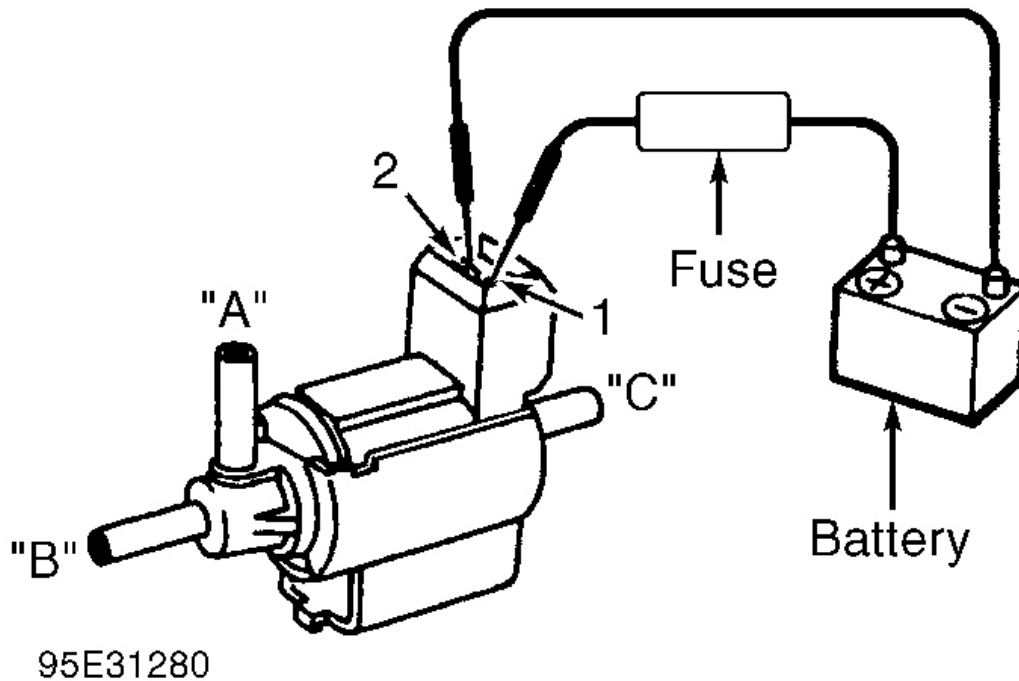

Fig. 10: Typical Control Solenoid
1. Disconnect vacuum lines and electrical connector from solenoid. Remove solenoid. Using hand-held vacuum pump, apply vacuum to port "A" of solenoid. See **Fig. 10**. Vacuum should now be available at port "C", but not at port "B".
1. To test solenoid, disconnect vacuum lines and electrical connector from solenoid. Remove solenoid. Using hand-held vacuum pump, apply vacuum to port "A" of solenoid. See **Fig. 10**. Vacuum should now